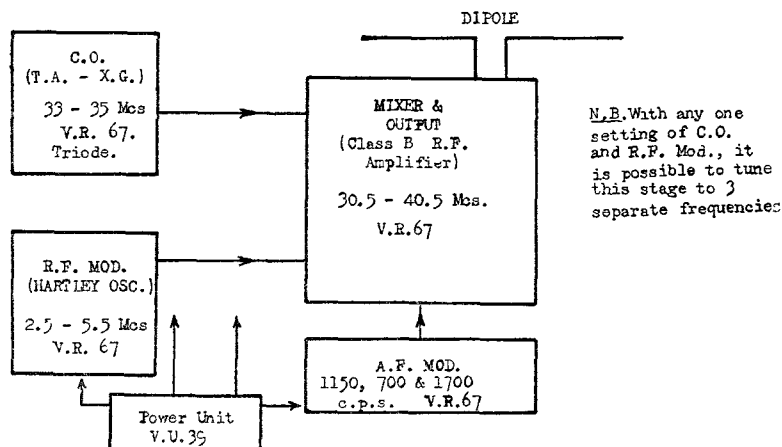

FIG. 88B.—Block diagram test oscillator, Type 12.
11. **Test Oscillator, Type 12** (fig. 88B).—Uses same principle as marker transmitter. Has C.O., R.F. mod., mixer-output and A.F. modulator stages, triodes.